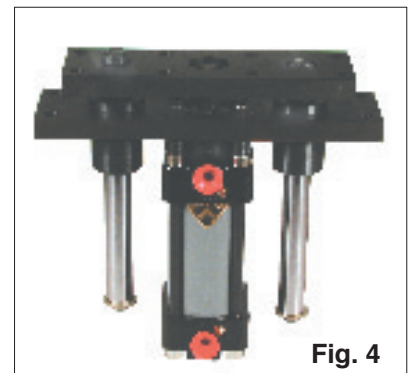

Fig. 4
3. Gently tap each screw with a rubber mallet (Fig. 3). This will drive the guide rods out of the upper plate (Fig. 4).
4. After the guide rods have been positioned below the upper plate remove the screws (Fig. 4). Retain the screws for use during reassembly.